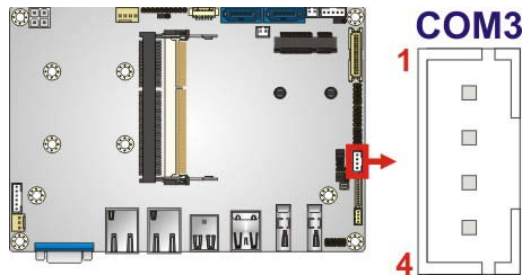

Figure 4-17: Serial Port Connector Location
- CN Location: See **Figure 4-17**